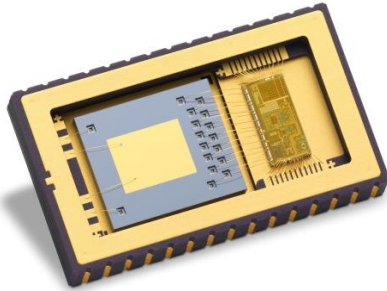

Figure 31 : Inner view of the package, showing the MEMS and IC
The sensing element (MEMS die), which is located on the left part of the Figure 31, is manufactured using Tronics’ wafer-level packaging technology based on micro-machined thick single crystal silicon. The MEMS consists of two coupled sub-structures subjected to linear anti-phase vibrations. The structures are vacuumed at the wafer-level providing high Q-factor in the drive mode. The drive system is decoupled from the sense system in order to reduce feedback from sense motion to drive electrodes. The drive anti phase vibration is sustained by electrostatic comb drives. The sense anti phase vibration resulting from Coriolis forces is counter balanced by electrostatic forces. Differential detection and actuation are used for both drive and sense systems and for each sub-structure, keeping two identical structures for efficient common mode rejection.
The integrated circuit (IC), which is located on the right part of the Figure 31, is designed to interface the MEMS sensing element. It includes ultra-low noise capacitive to voltage converters (C2V) followed by high resolution voltage digitization (ADC) for both drive and sense paths. Excitation voltage required for capacitance sensing circuits is generated on the common electrode node. 1-bit force feedbacks (DAC) are used for both drive and sense system actuation.